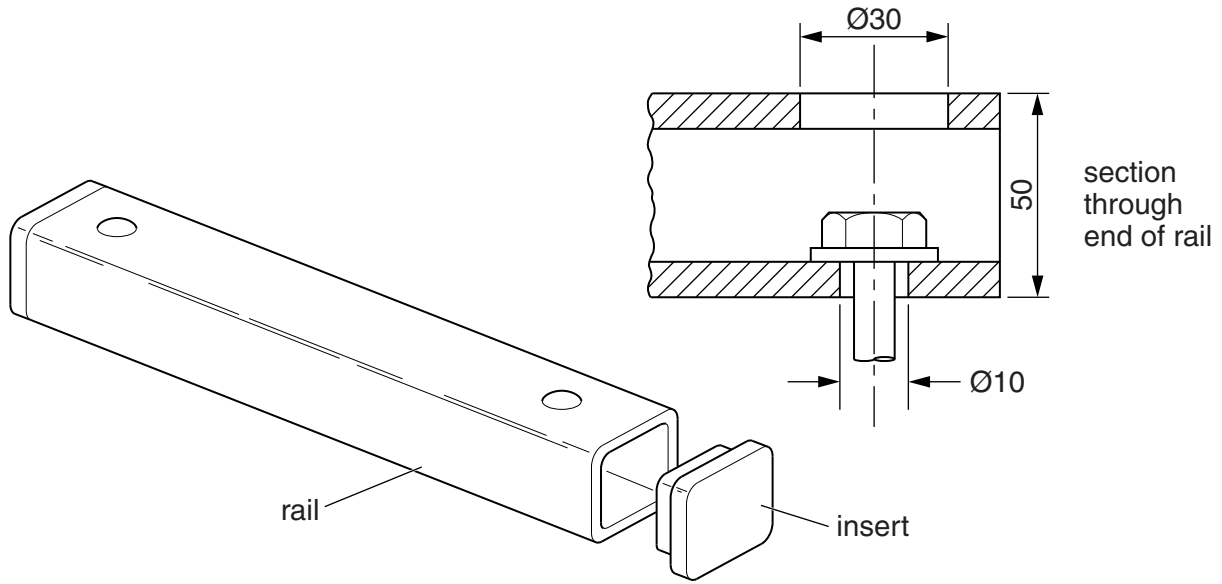

Fig. 3
(e) Fig. 3 shows details of one of the seat rails from the bench.
- (i) State a **suitable specific plastic** for the seat rail shown in Fig. 3.
- (ii) Describe, in detail, how the seat rail shown in Fig. 3 would be manufactured as a batch of 5000.